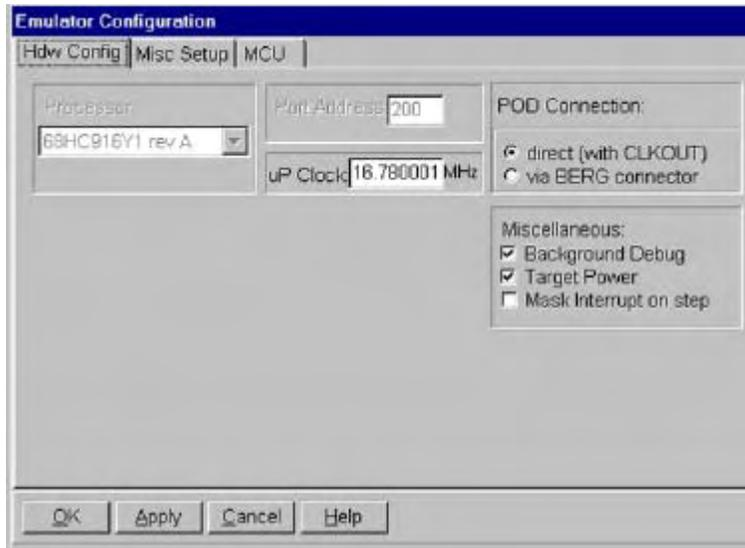

Figure 76. Emulator Hardware Configuration
1. Ensure that there is a jumper inserted connecting BNK0 (pin 2, close to outer edge of the board) to /CS0 (pin one (1), away from the outer edge of the board opposite BNK0). Make sure that the 16BIT jumper 5 position is also inserted. (This step is checking that /CSBOOT will select pod memory.)
2. From the main menu click **Config, Emulator**. The **Emulator Configuration** menu should appear with the **Hdw Config** tab already selected (Figure 76).